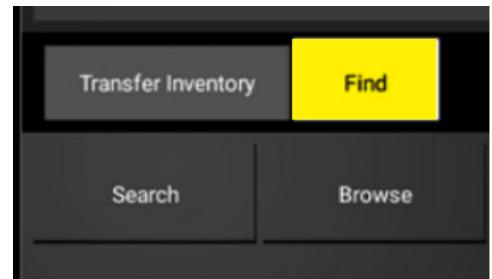

Figure 67
1. Select FIND at top of the screen (Figure 67)